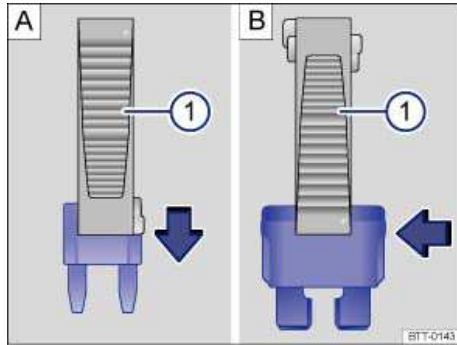

Fig. 216 Removing or inserting a fuse using the plastic tweezers.
- If needed, remove the plastic tweezers (1) from the fuse box cover.
- For *small fuses*, slide the tweezers ⇒ fig. 216 (1) onto the fuse from the top **A**.
- For *larger fuses*, slide the tweezers (1) onto the fuse from the side **B**.